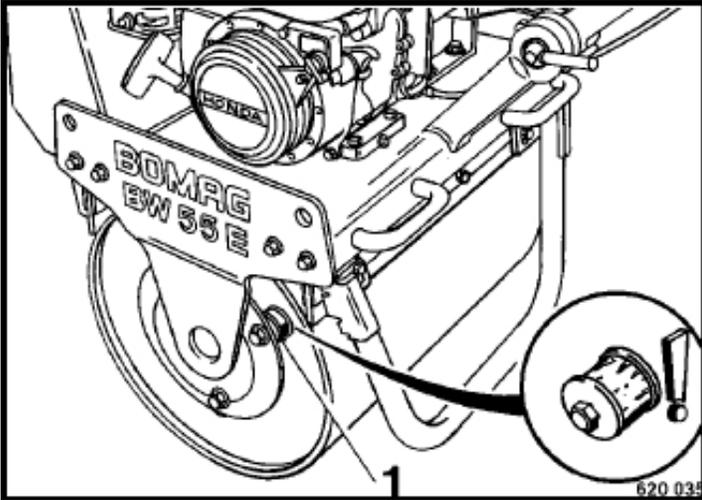

Fig. 40
- 1 Check the condition and tight fit of all rubber buffers 1 (Fig. 40), replace if necessary.